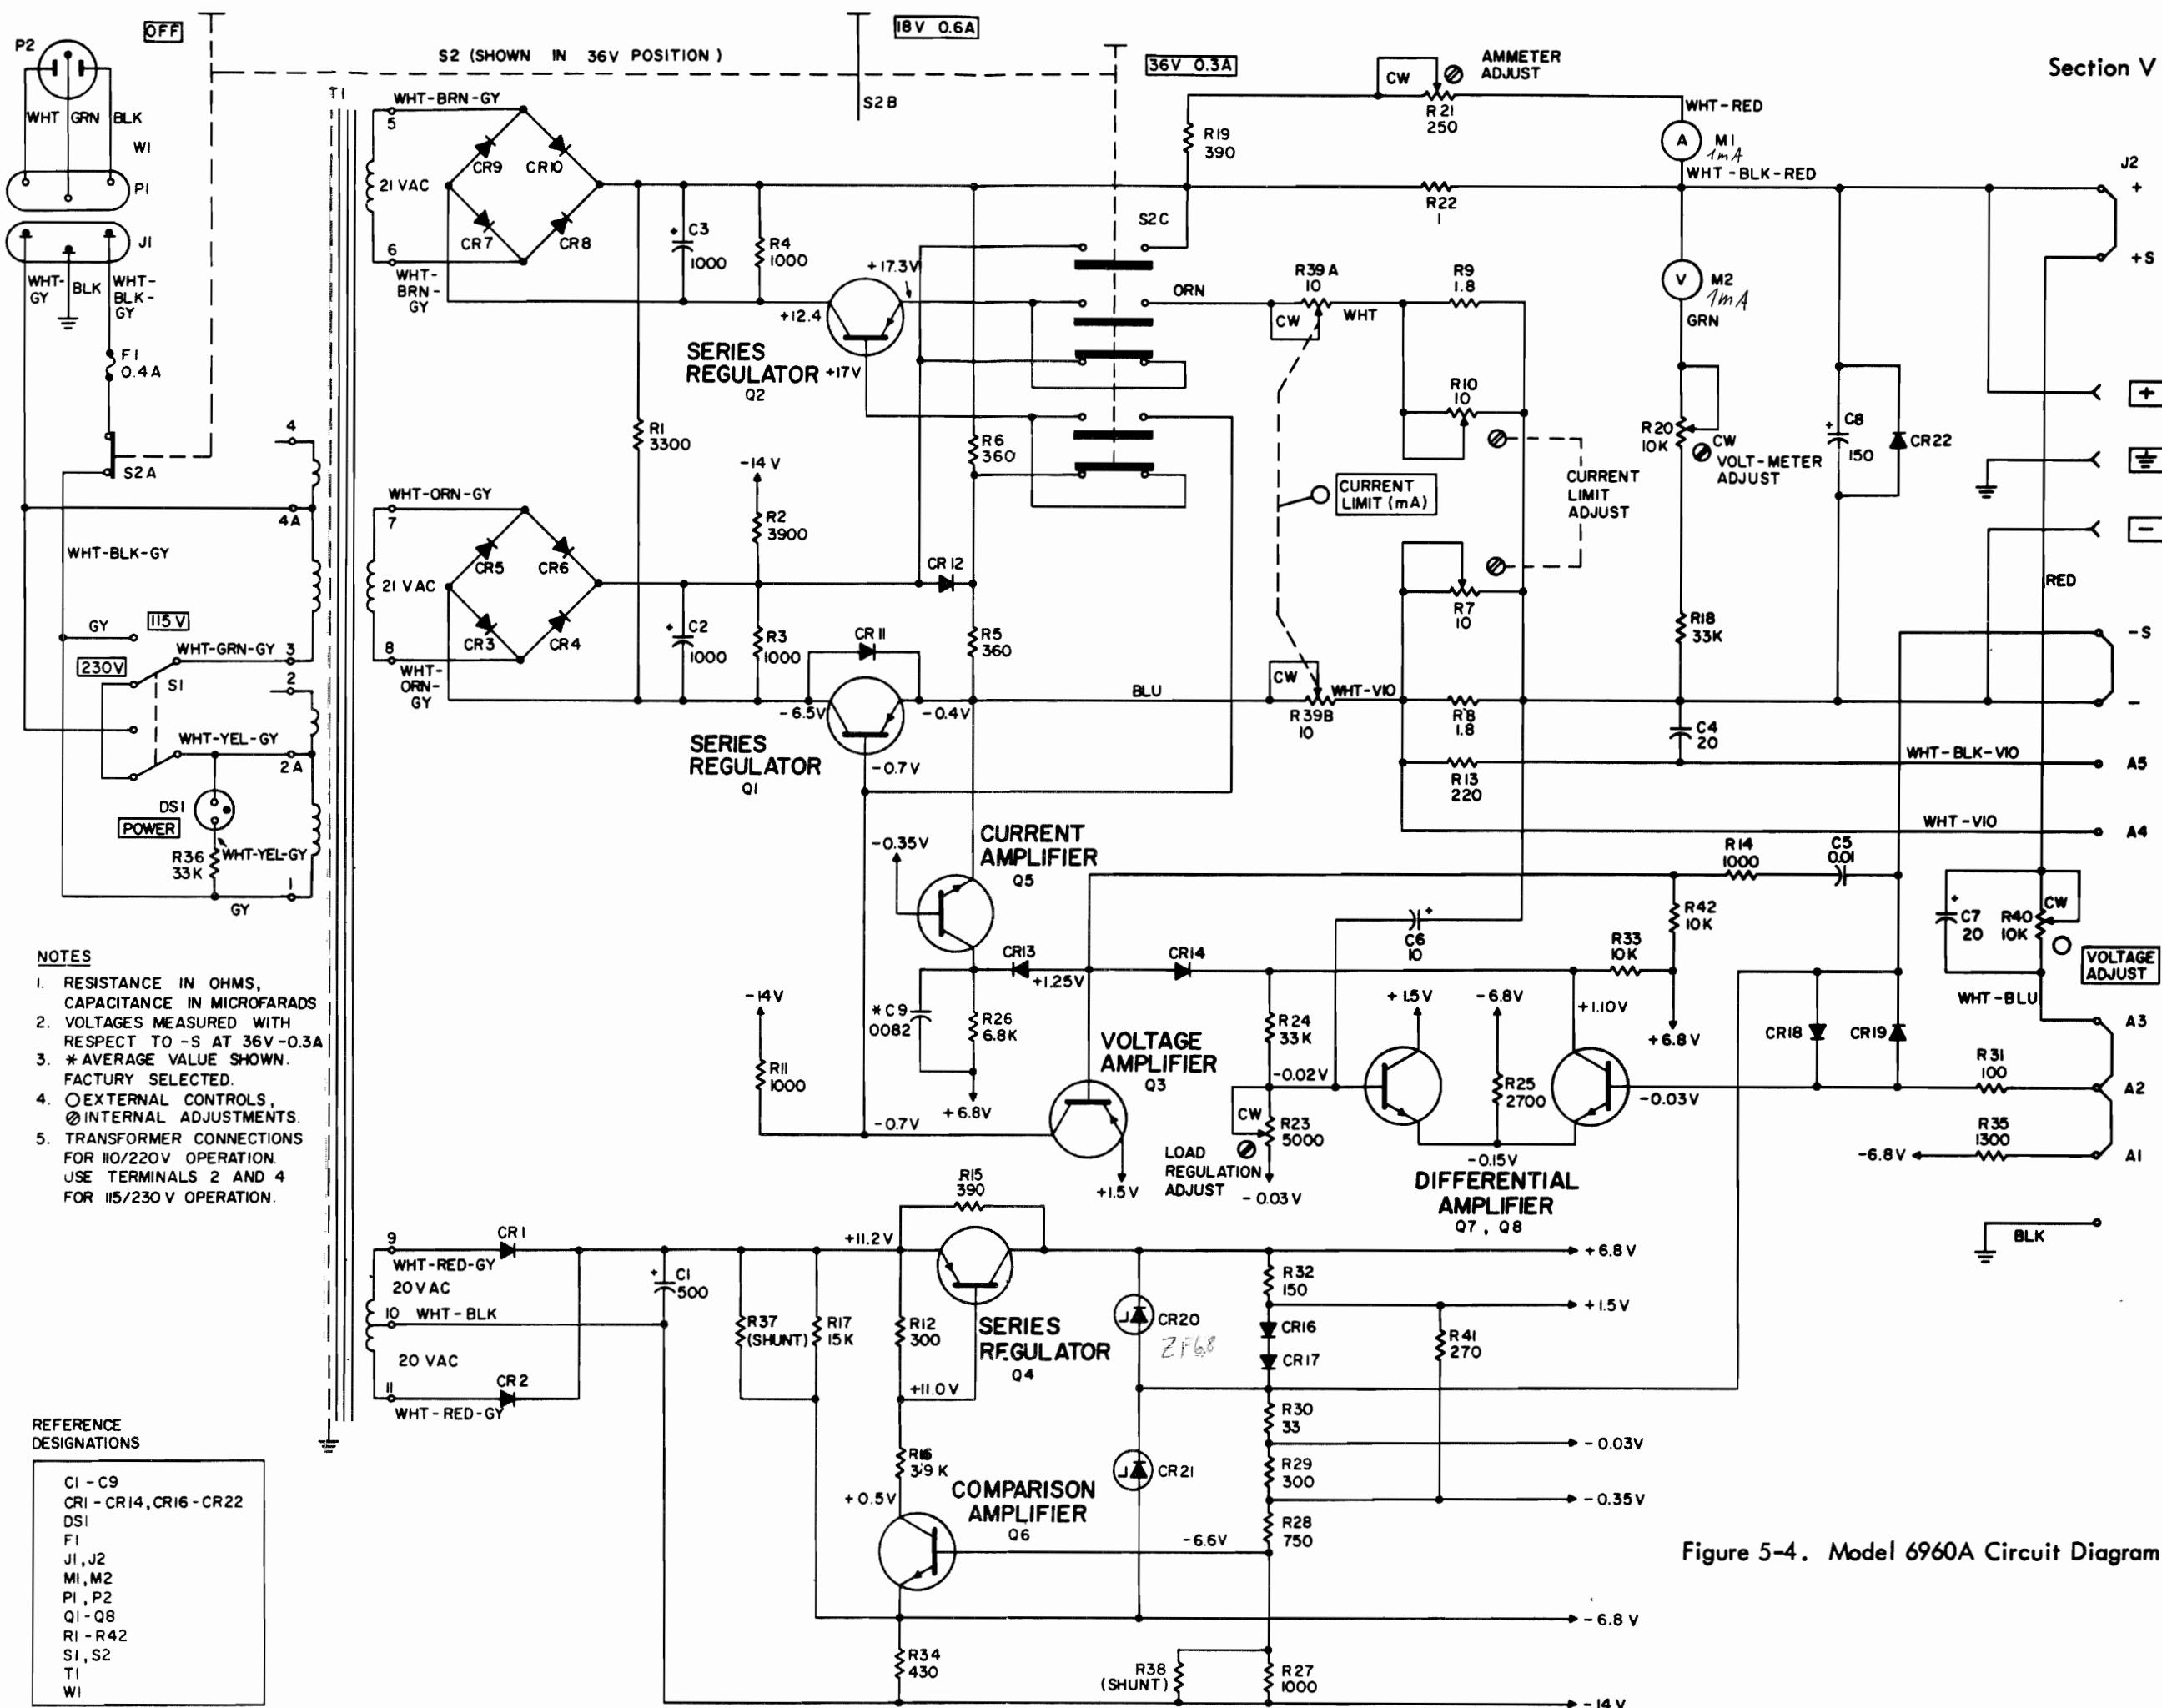

Figure 5-4. Model 6960A Circuit Diagram
- 4-4 The schematic diagram (Fig 5-4) shows all details of the circuit. Power transformer is shown to consist of three secondary windings of which the upper two are the main sources of DC power, while the lower supplies the reference and auxiliary voltage circuit. Rectifier bridges CR 3 to CR 6 and CR 7 to CR 10 are coupled by R 1. Filtering is provided by capacitors C2 and C3. Resistors